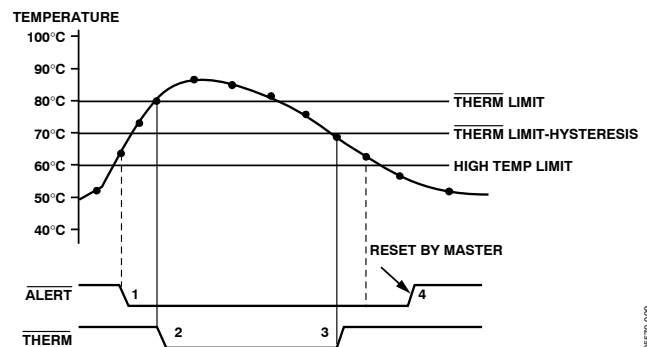

Figure 20. Operation of the **ALERT** and **THERM** Outputs
Figure 20 shows how the **THERM** and **ALERT** outputs operate. The **ALERT** output can be used as an **SMBALERT** to signal to the host via the **SMBus** that the temperature has risen. If the temperature continues to increase, the **THERM** output can be used to turn on a fan to cool the system. This method ensures that there is a fail-safe mechanism to cool the system, without the need for host intervention.
- The $\overline{\text{THERM}}$ output deasserts (goes high) when the temperature falls to $\overline{\text{THERM}}$ limit minus hysteresis. In Figure 20, the default hysteresis value of 10°C is shown.